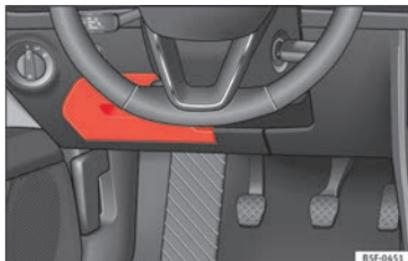

Fig. 202 On the driver-side dash panel: fuse box cover
- *Opening*: fold the cover down » **Fig. 202**.